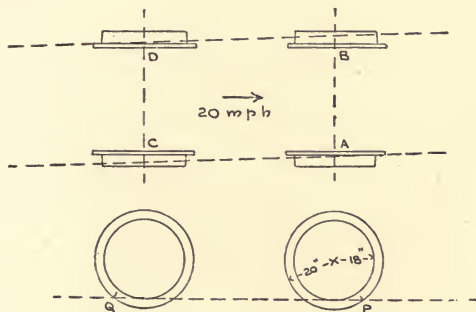

Fig 1
2. A four-wheeled railway truck is rounding a curve at a speed of 20 miles per hour. The flanges of the wheels *A* and *D* are rubbing against the rails, the points of contact having the positions *P* and *Q* shewn in Fig 1.